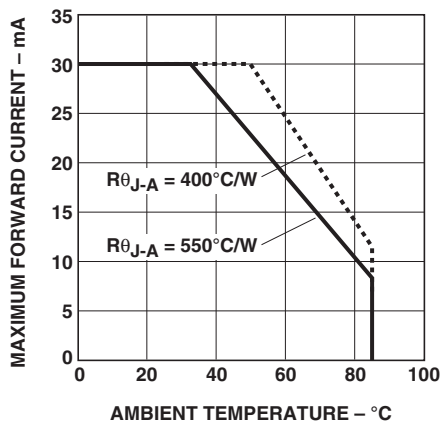

Figure 5. Maximum forward current vs. ambient temperature. Derating based on  $T_{JMAX} = 110\frac{1}{2}^{\circ}C$ .
1. Derate linearly as shown in Figure 5.